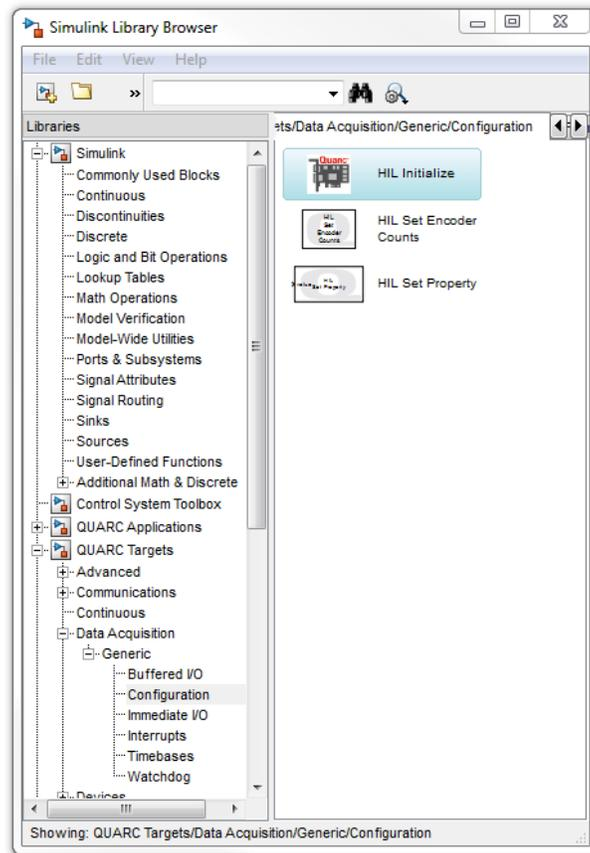

Figure 2.2: QUARC Targets in Simulink® Library Browser
4. Expand the **QUARC Targets** item and go to the *Data Acquisition | Generic | Configuration* folder, as shown in Figure 2.2.